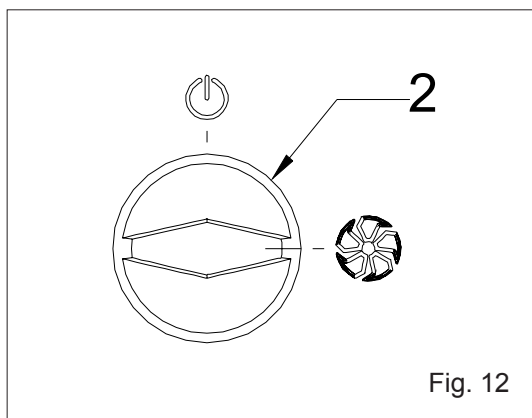

Fig. 12
To start the cooking cycle, turn selector (2) to position 1, as shown in Fig.12.